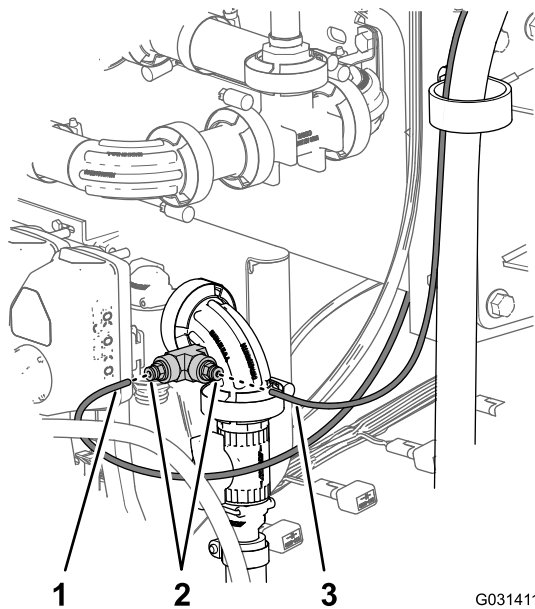

Figure 186
- Insert the end of the pressure-sense tube for the dash-pressure gauge into the tube coupler until the tube fully seats in the coupler (Figure 186).
- 5. Insert the end of the pressure-sense tube for the pressure gauge of the hose reel into the tube coupler until the tube fully seats in the coupler (Figure 186).